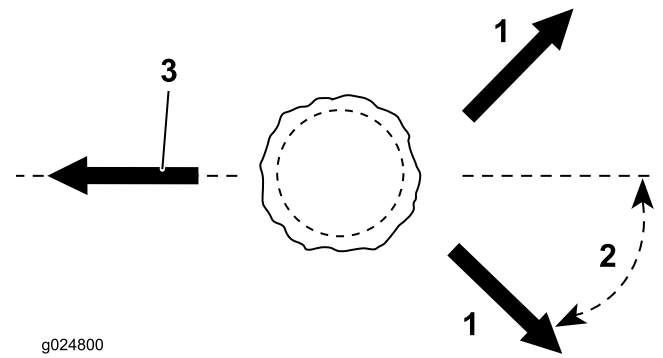

Figure 12
1. Before starting the felling process, determine an appropriate retreat path. Refer to Figure 12.